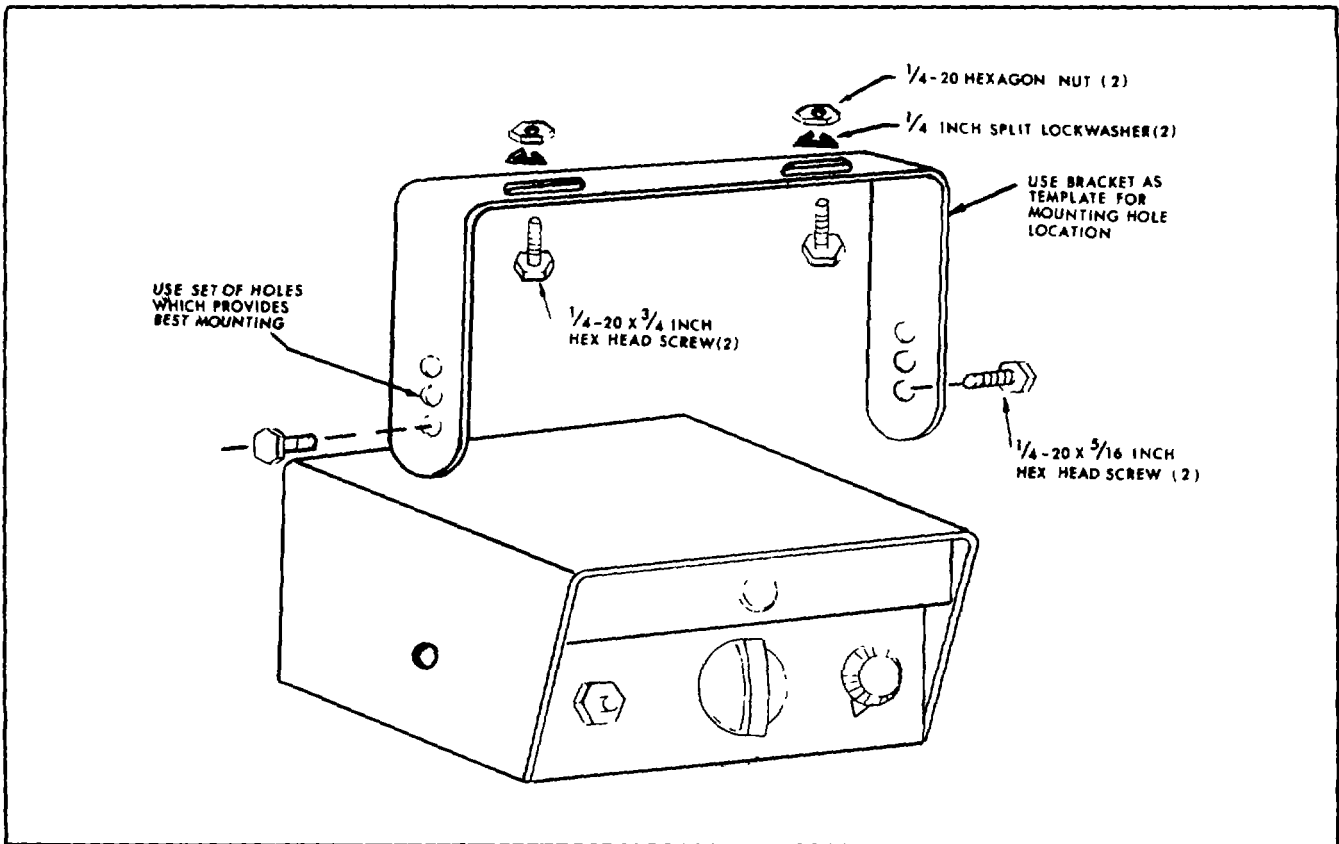

Figure 3. Installation of Mounting Bracket
- C. Mount the bracket with the 1/4-20 x 3/4 hexagon head machine screws, 1/4-20 hexagon nuts and 1/4 inch split lock washers as shown in figure 3.
The height of the unit above or below a surface may be adjusted by selecting a set of mounting holes in the bracket. Mount the unit to the bracket with the two 1/4 20 x 5/16 hexagon head machine screws as shown in figure 3. The unit may be tilted to any convenient position.